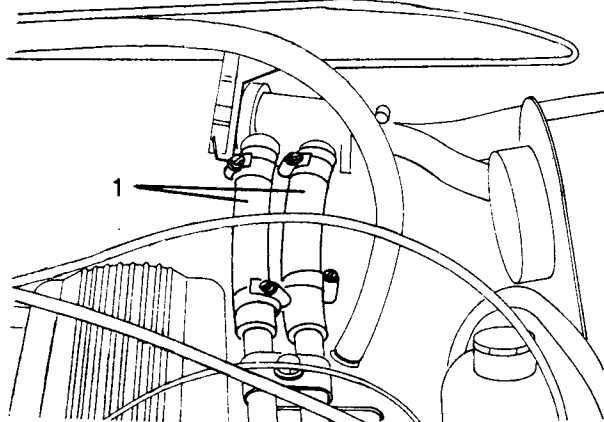

Fig B4.3
- (11) Refer to Fig B4.3. Disconnect the heater hoses (1) from the heater water valve.